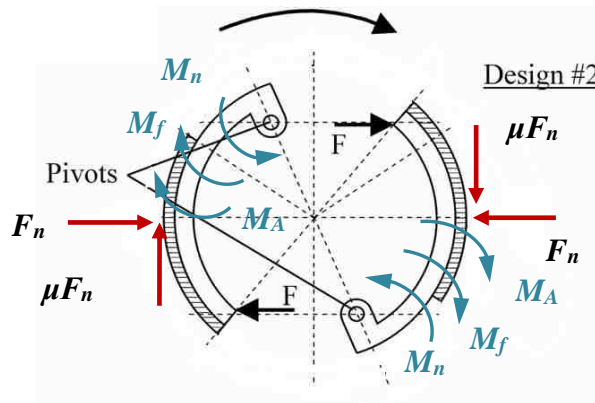

Figure A3-1
- ii) Figure A3-1 shows the free body diagram of the normal and friction forces as well as their moments to the pivots on both shoes. [3 marks]